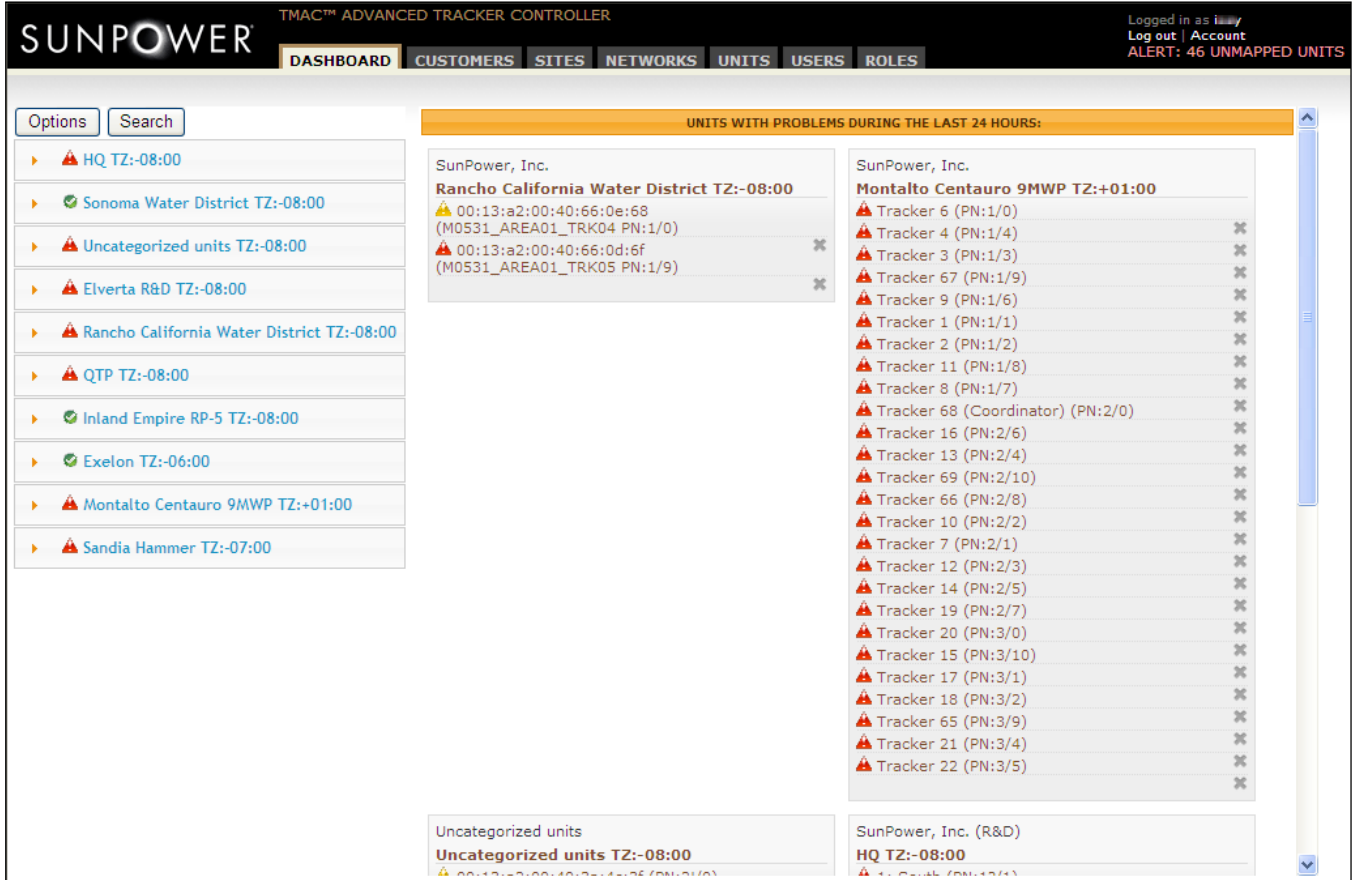

Fig. B1
3. The application's main page opens (Fig. B1).